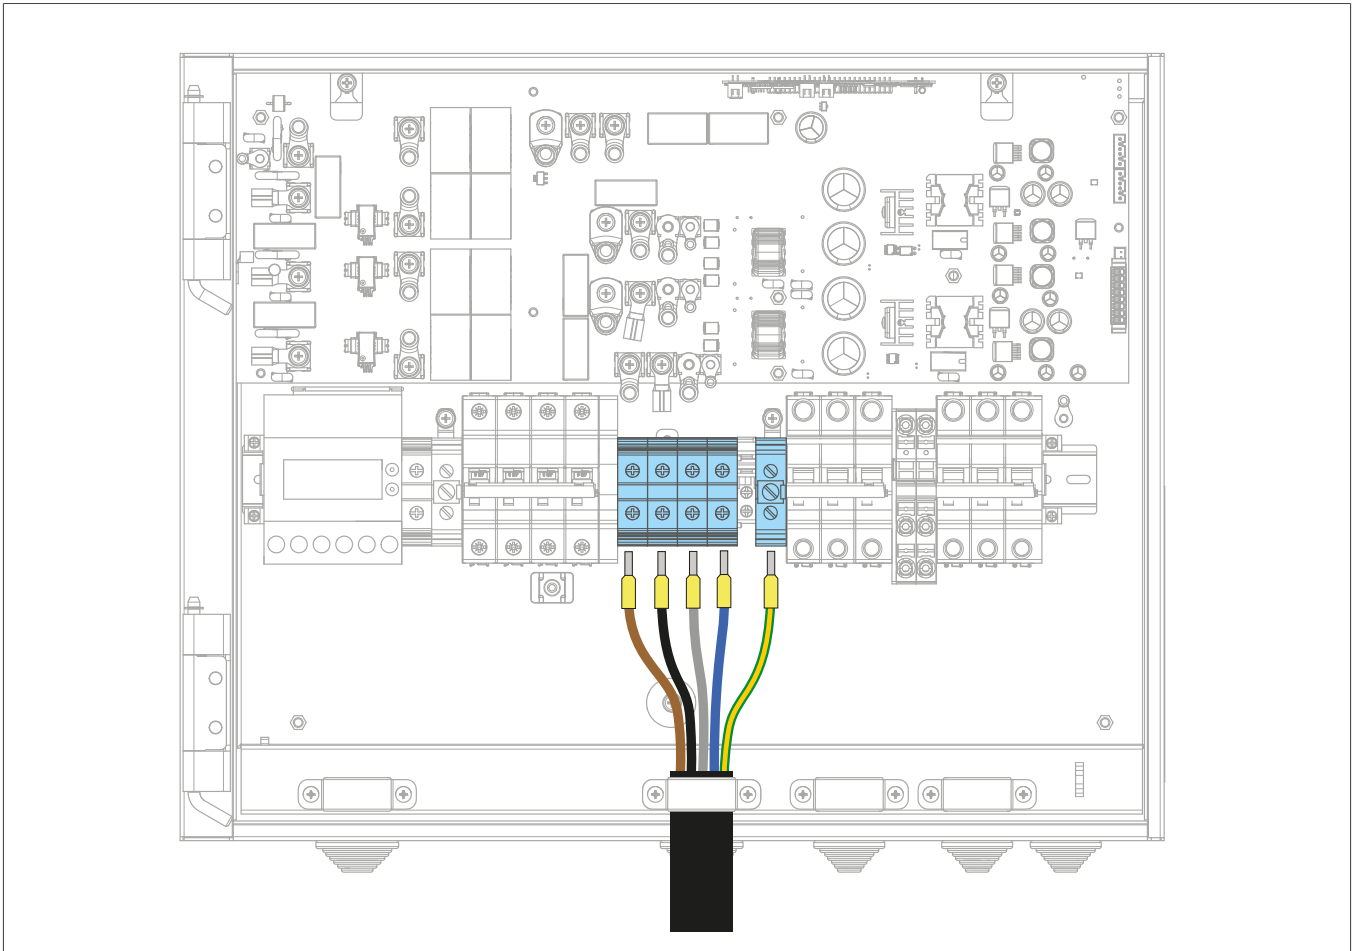

Fig. 27: Connecting the building distribution board
- 5 Connect the cores (see Fig. 27).